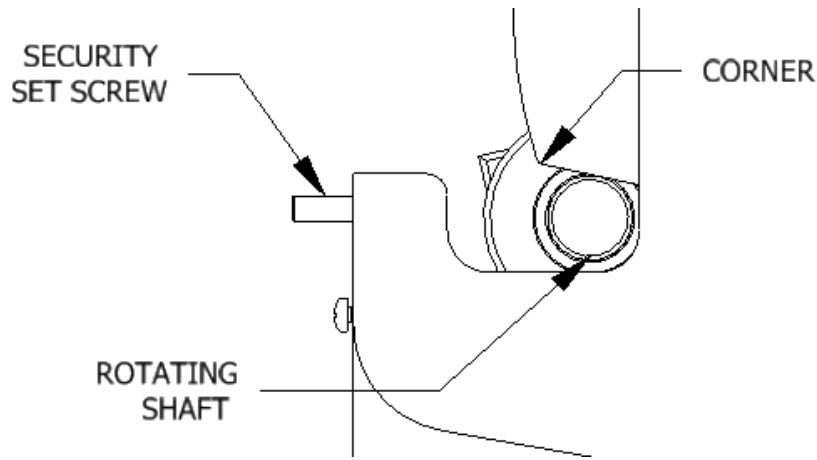

Figure 7 - Cam Profile of 622G Rope Gripper™
- Remove the security set screws until there is complete clearance for the rotating shaft to move up and down the cam (See Figure 7 on page 6).
- As the linings wear in, the rotating shaft will move up the cam slot and around the corner of the cam noted above (Figure 7), and the connecting arms (see Figure 1) will move up the side wall and begin to match or line up with the wear-in line marked on the side wall.
2. Make sure machine brake is functioning properly (prevents any car movement). Use an 8mm socket wrench (not provided) to turn either one of the hex shafts in the designated direction until the brake is loosened on the ropes and the car is free to move (see Figure 7). **IMPORTANT:** Use wrench to open gripper only as far as is necessary to allow car movement. Opening further may damage the gripper.